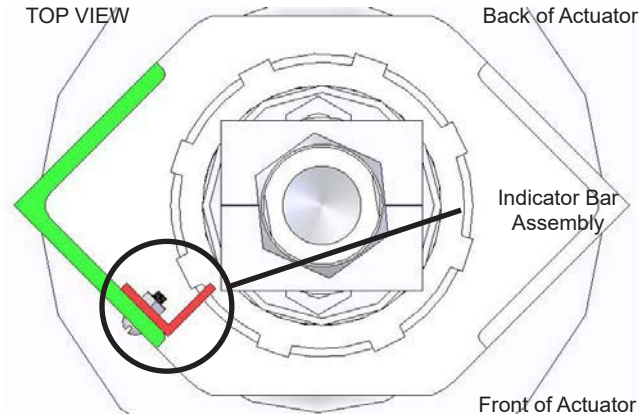

Figure 74. Top View of Indicator Bar Assembly (Cylinder and Spring Cartridge hidden for clarity)
15. Fasten INDICATOR BAR (BB) to HOUSING ASSEMBLY (R) using 2, ROUND HEAD MACHINE SCREWS (CC) and 2, HEX HEAD JAM NUTS (DD). Tighten the JAM NUTS (DD) hand tight only. Finished assembly should resemble figure 74.